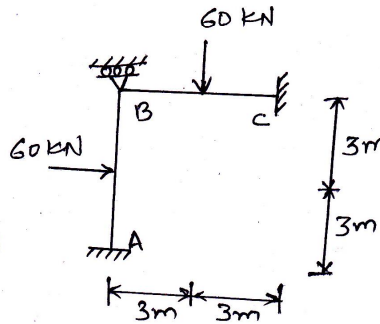

Fig. 4
- Q.4** (a) Construct the rearranged joint stiffness matrix for the plane frame shown in Figure 4. **07**
- (b) Determine free joint displacements and support reactions for the plane frame shown in Figure 4 using stiffness member approach. **07**